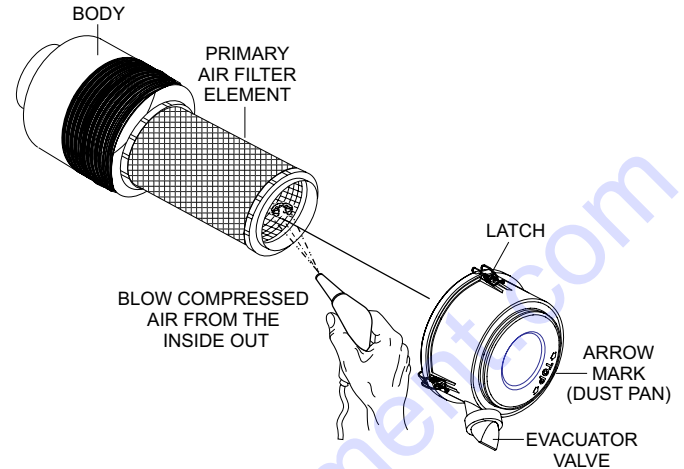

Figure 52. Air Cleaner
Every 250 hours: Remove air cleaner element (Figure 52) and clean the heavy duty paper element with light spray of compressed air. Replace the air cleaner as needed.
1. Release the latches (Figure 52) that secures the cover to the air cleaner body.
6. To clean the primary element (paper air filter) as referenced in (Figure 52), tap the filter element several times on a hard surface to remove dirt, or blow compressed air (not to exceed 30 psi (207 kPa, 2.1 kgf/cm²) through the filter element from the inside out.